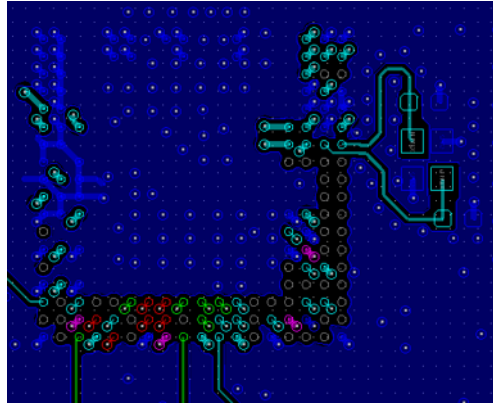

Fig. 3.2: Top Layer with Alps AiP and Sufficient Through-VIAs under Chip
- Alps AiP should be placed on the top layer. And to enhance heat dissipation, sufficient VIAs should be placed under Alps AiP chip as shown in Fig. 3.2.